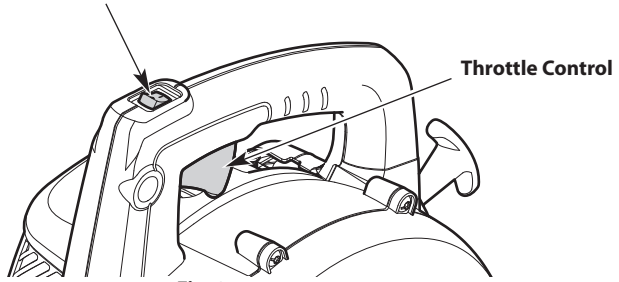

Fig. 3
NOTE: There is no need to turn the unit on. The On/Off switch is in the **On (I)** position at all times (Fig. 3).
4. Squeeze and hold the throttle control (Fig. 3).